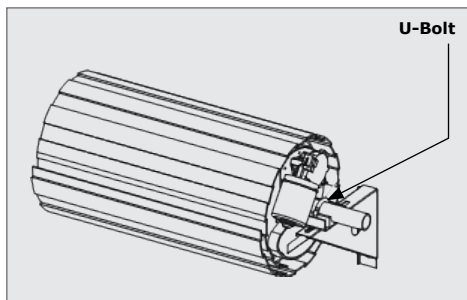

FIGURE 14
9. Refit the garage door mounting bracket to the wall. The U-Bolt slots in the door bracket must align with the U-bolt mounting slots in the Drive Unit. (Figure 14)